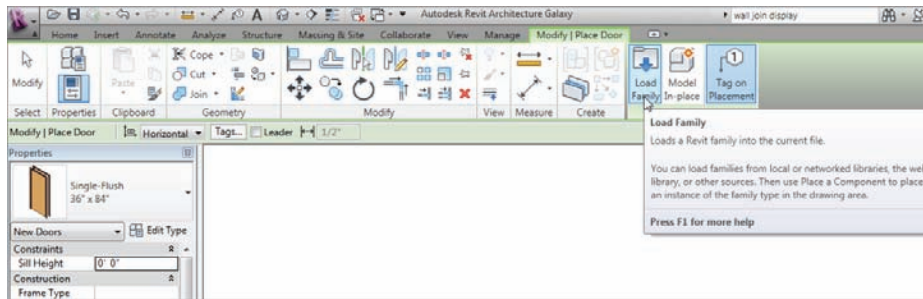

FIGURE 2.70 Click Load Family on the Mode panel.
2. On the Modify | Place Door tab, click the Load Family button, as shown in Figure 2.70.